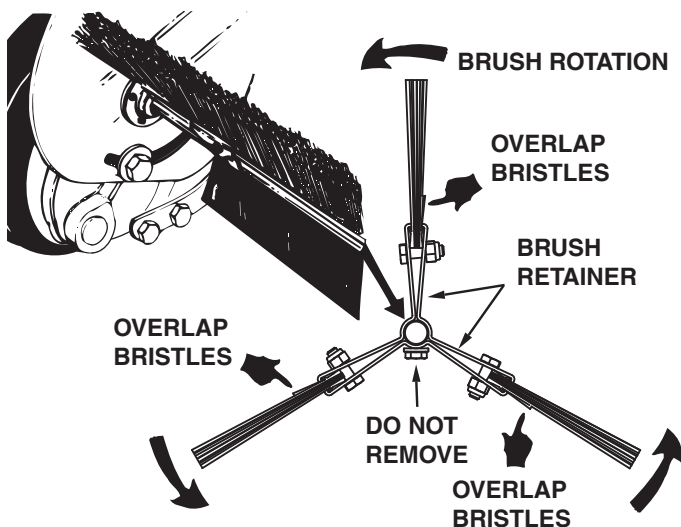

FIGURE 29
2. Loosen only the two hex bolts and lock nuts which clamp one brush in a brush retainer. **Do not loosen** or remove the bolts which fasten the brush retainers to the brush shaft. See figure 29.
3. Lift the brush out of the retainers, noting on which side of the brush the bristles overlap. See figure 29.
4. Install new brush, making sure the bristles overlap on the same side of the brush as before. See figure 29.